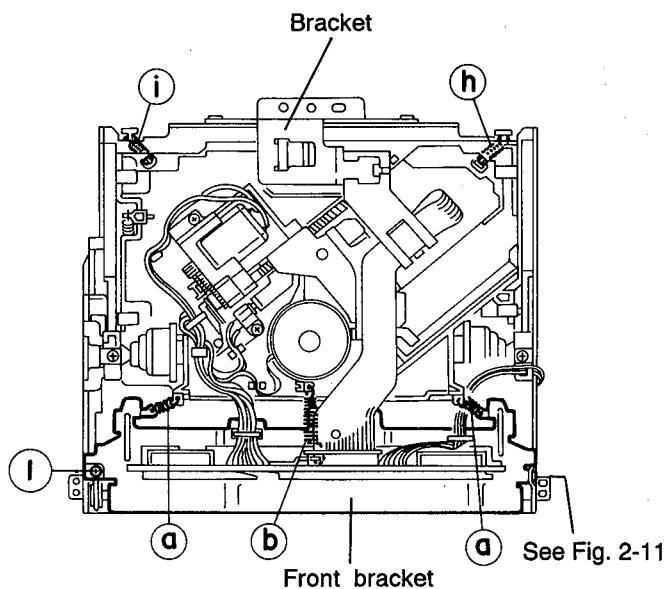
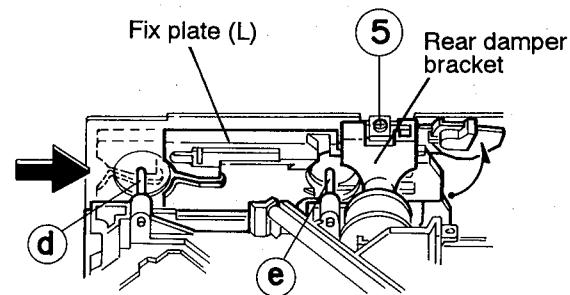

Fig. 2-10
Fig. 2-17
5. Remove the three springs ④ and ⑤ from behind the CD mechanism assembly (See Fig. 2-10).
2. While shifting the fix plates on the right and left sides respectively to the arrow direction, lower the entire CD mechanism. When the shafts (④, ⑧, ⑥ and ⑨) on both the right and left sides have been set free as shown in Figs. 2-17 and 2-18, then the assembly can be removed easily. Remove the two screws ⑤ retaining the rear damper bracket to make it easier to remove the damper from the rear damper bracket (See Figs. 2-10, 2-17 and 2-18).
3. Remove the two springs ⑩ and ⑪ as shown in Fig. 2-10, 16.